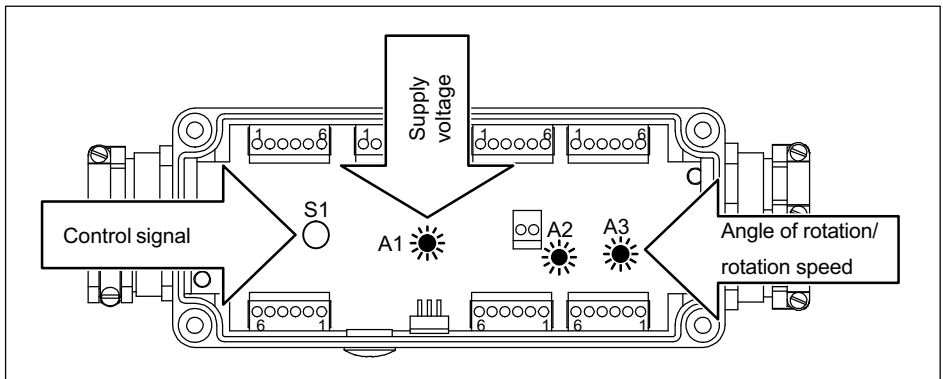

Fig. 5.5 Control LEDs and control signal push button
- with push button S1 on the board (as long as it is pressed; see Fig. 5.5).